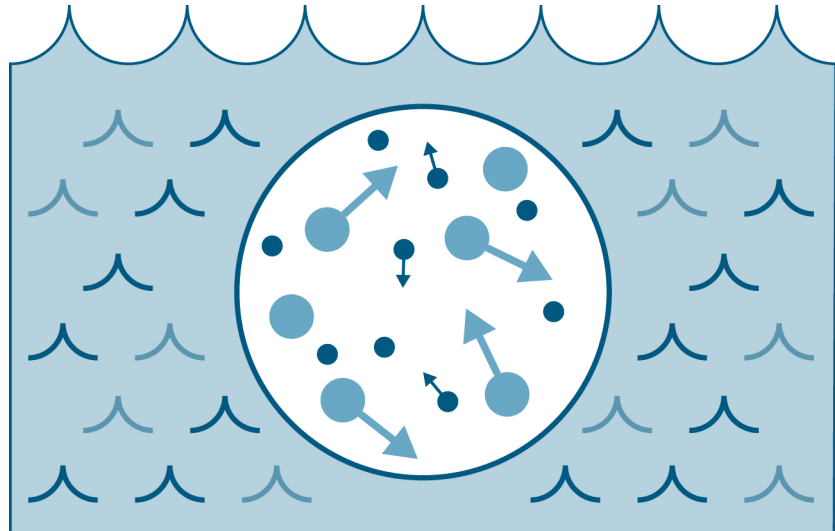

Figure 33 A vapour bubble with ethanol and water molecules.
- Using a pencil, draw in Figure 33 what happens during a second and third distillation.